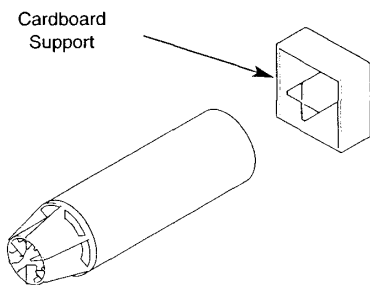

Fig. 25
3. The cardboard support should be installed onto the flue tubes to ensure the assembly is supported during cutting (Fig. 25 & 26).